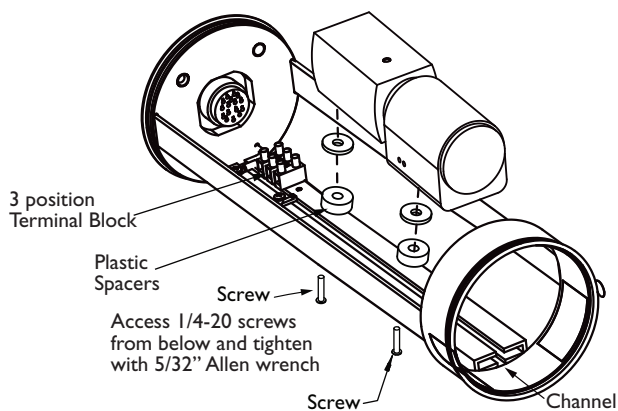

FIGURE 7 HS9392 Camera/Lens installation
3. Determine which 1/4-20 BHCS are required to secure the camera and lens. Insert the head of both screws into the Channel between the cradle rails (see **Figure 7**).
4. Once the screws are in position, stack the appropriate plastic spacers on the threaded end of the screws as shown in **Figure 7**.